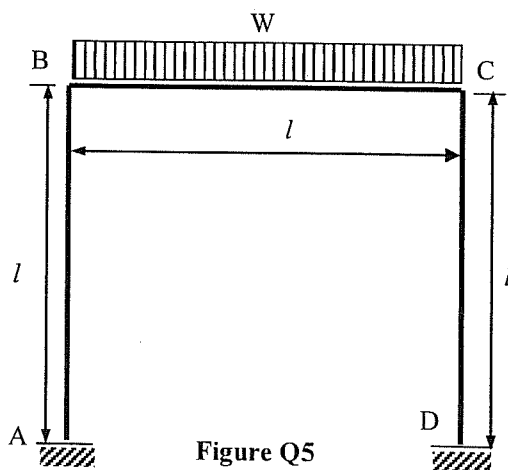

Figure Q5
- (ii) A frame structure shown in Figure Q5. Flexural rigidities of members are same. Find the free nodal displacements at B using the displacement method. You can neglect the axial deformation. (10 Marks)